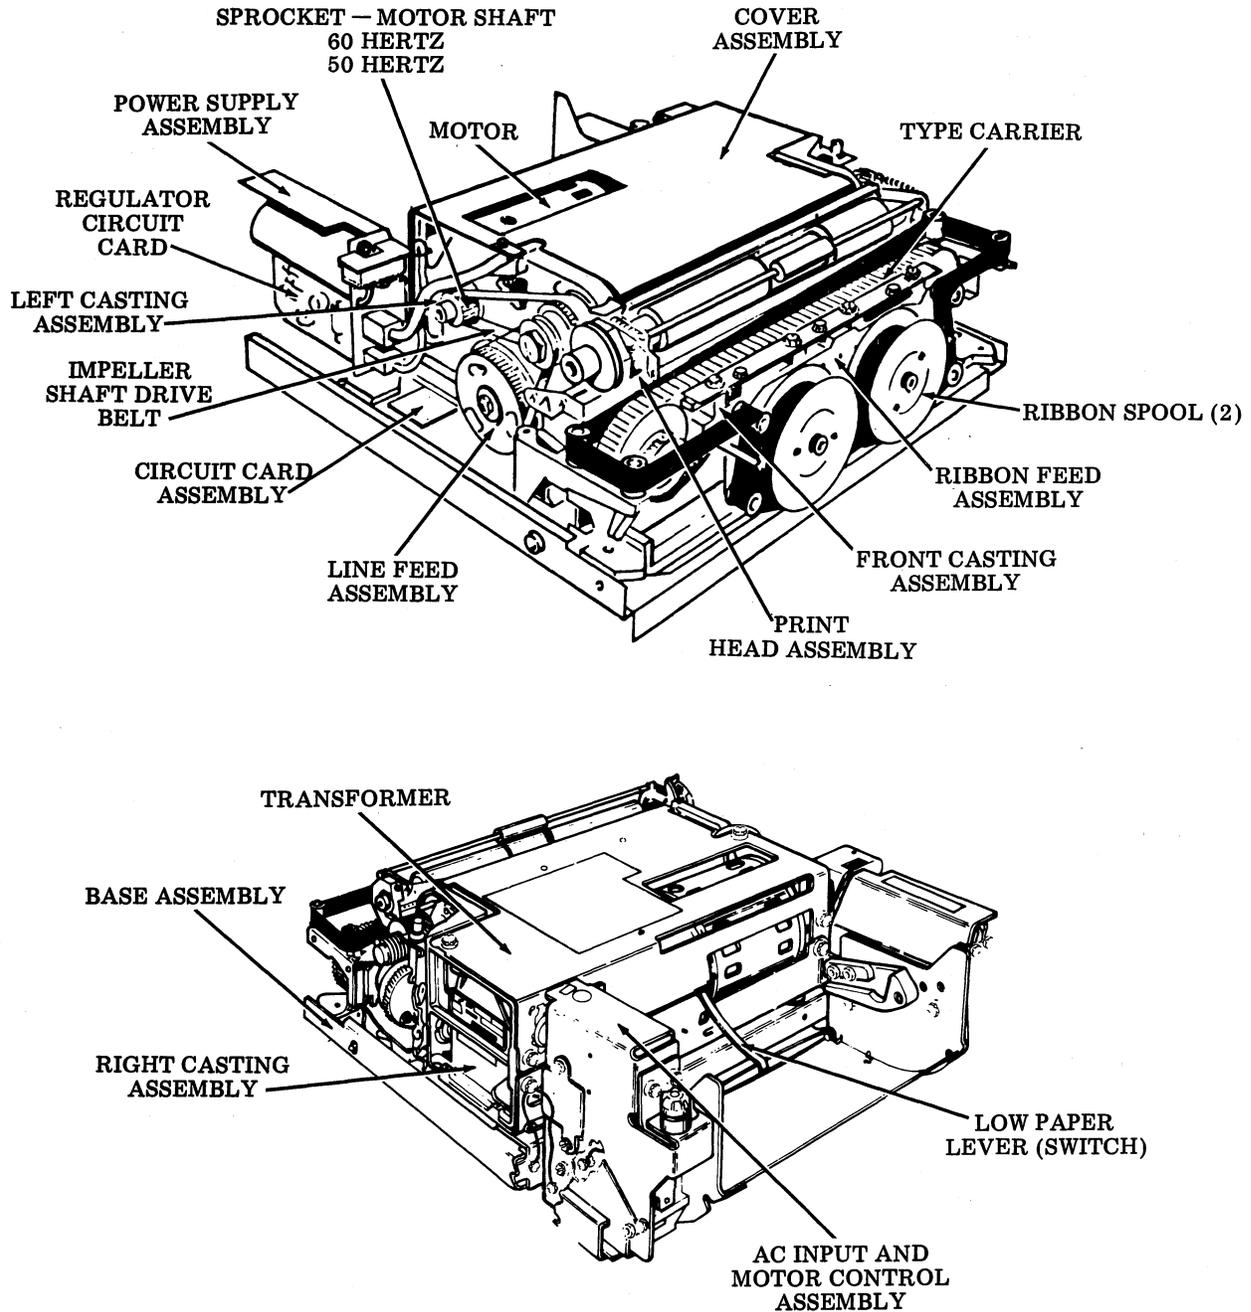

Fig. 2
2.01 The DATASPEED 40 Printers consist of major subassemblies and related parts (refer to Fig. 2, 3, 4, and 5). The printers are
capable of operating on a 50 or 60 hertz line. This feature is determined by a sprocket on the left end of the motor shaft (refer to Fig. 2 and Section 582-210-702).